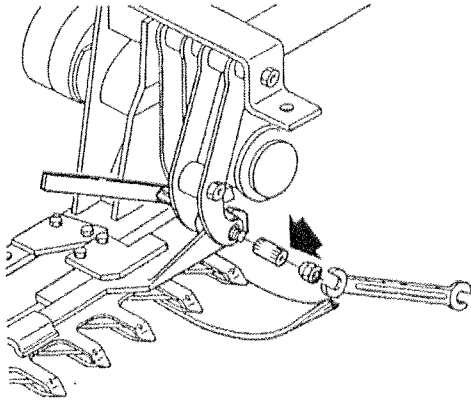

Fig. 12
- Fit the blades (B and C, Fig. 11) in the cutting arm guides, fixing first blade (B) then blade (C) using the screws and expansion bushes (G, Fig. 12).